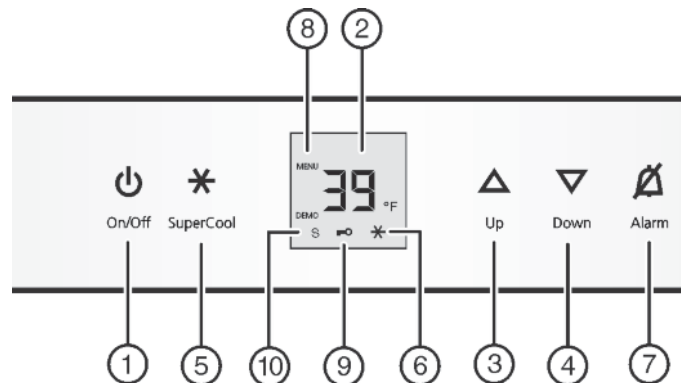

Fig. 3
- Press the On/Off button Fig. 3 (1).
- Activate setting mode: Press SuperCool button Fig. 3 (5) for about 5 seconds.
- ▷ The SuperCool button Fig. 3 (5) will flash.
- ▶ Using Up button *Fig. 3 (3)*/ Down button *Fig. 3 (4)* select °.
- ▶ To confirm: Briefly press SuperCool button *Fig. 3 (5)*.
- ▶ Using Up button *Fig. 3 (3)*/ Down button *Fig. 3 (4)* select °F or °C.
- ▶ To exit setting mode: Press On/Off button *Fig. 3 (1)*.
- ▶ Select setting mode: Press and hold the SuperCool button *Fig. 3 (5)* for approx. 5 seconds.
- ▷ The Menu symbol *Fig. 3 (8)* lights up.
- ▶ Using the Up *Fig. 3 (3)* or Down button *Fig. 3 (4)*, select c.
- ▶ Press the SuperCool button *Fig. 3 (5)* briefly to confirm. When c1 is shown on the display:
- ▶ To switch on the child proof lock, press the SuperCool button *Fig. 3 (5)* briefly.
- ▷ The Child safety symbol *Fig. 3 (9)* lights up. c flashes on the display.
- ▶ To switch the child proof lock off, press the SuperCool button *Fig. 3 (5)* briefly.
- ▷ The Child safety symbol *Fig. 3 (9)* goes out. c flashes on the display.
- ▶ To deactivate setting mode: Press the On/Off button *Fig. 3 (1)*.
- ▶ Press Alarm button *Fig. 3 (7)*.
- ▶ To activate setting mode: Press and hold the SuperCool button *Fig. 3 (5)* for approx. 5 s.
- ▶ To access the Sabbath mode function: Briefly press the SuperCool button *Fig. 3 (5)*.
- ▶ **To turn on Sabbath mode**, briefly press the SuperCool button *Fig. 3 (5)*.
- ▶ **To turn off Sabbath mode**, briefly press the SuperCool button *Fig. 3 (5)*.
- ▷ The Sabbath Mode symbol *Fig. 3 (10)* appears on the temperature display as long as Sabbath Mode is active.